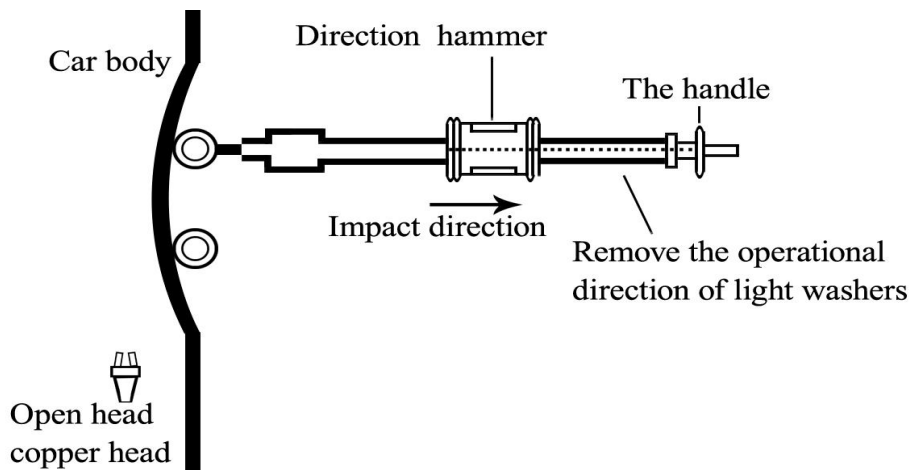

Figure 4
9.3 Usage of pull hammer: hook bright washer with pull hammer. then hold the direction hammer, strike the hammer pull along the axial direction to the car. repeat several times to make the dent parts recovery. If the dent area is large, should melting more washers. remove the bright washer by gently rotate the pull hammer after repair completed. (Figure 4)